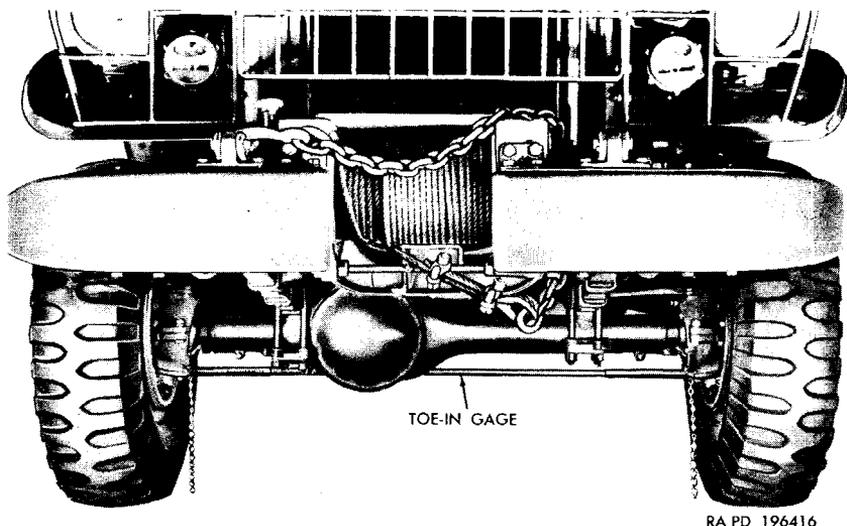

Figure 168. Measuring front wheel toe-in.
- (1) Check both front springs for sagged or broken leaves and loose spring clip **U**-bolts. Make certain that the springs are positioned properly on the axle. Tighten spring clip **U**-bolt nuts or replace springs, as required.
- (2) Check hub bearings for looseness. Adjust or replace the bearings, if necessary (par. 226).
- (3) Check the flange bearings for looseness. If looseness is evident, notify ordnance maintenance personnel.
- (4) Check wheel and tire runout. If runout exceeds three-eighths of an inch replace the wheel (par. 227).
- (5) Inflate all tires to 40 psi. Tread on both front tires should be approximately the same. Replace badly worn tires (par. 229).
- (6) If correction of camber, caster, and pivot angle, requires alining equipment, notify ordnance maintenance personnel.
c. *Check Toe-In* (fig. 168). Since incorrect toe-in may be caused by worn, damaged, or incorrectly adjusted wheel bearings, damaged or loose steering knuckle parts, or a bent tie rod, make certain that